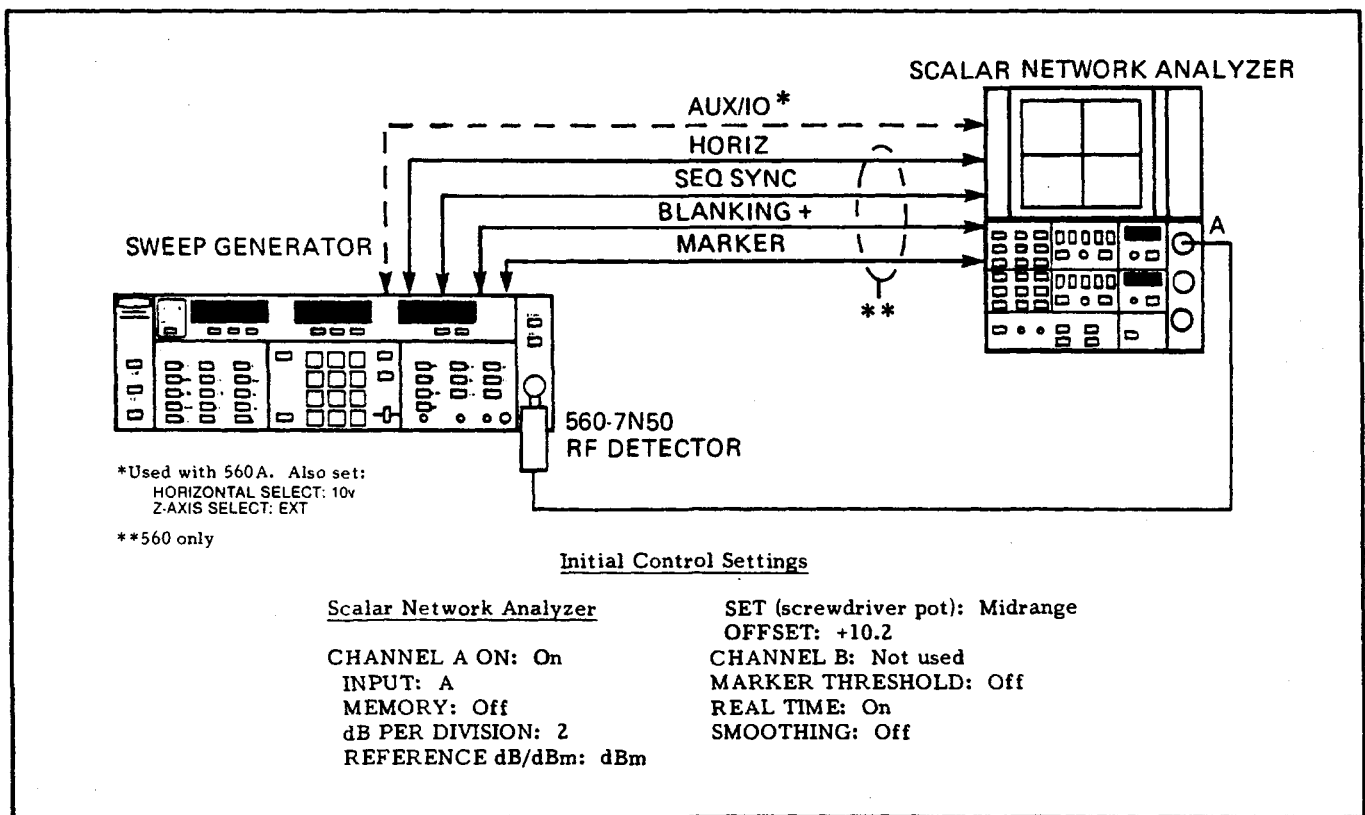

Figure 5-26. Test Equipment Setup for Tracking Filter Adjustments
- a. Connect test equipment as shown in Figure 5-26, and turn the equipment on.